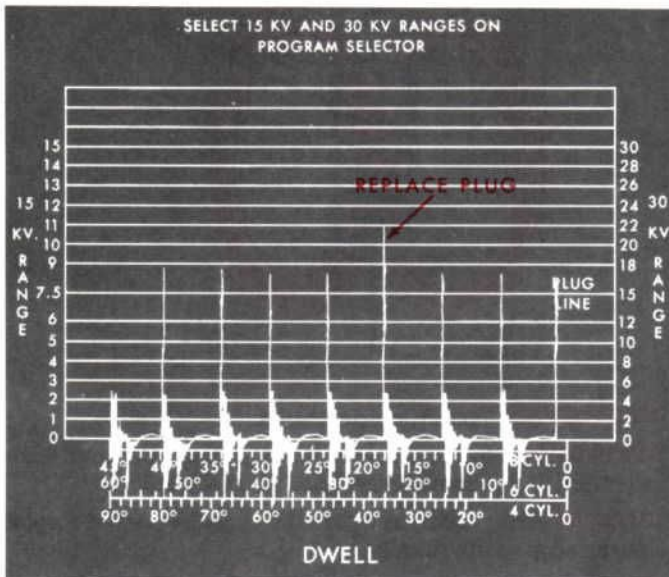

Figure 28—Plug Firing Under Acceleration
3. Check whether any voltage spike goes above the Plug Line (Figure 28). The plug line is now 15,000 volts, the